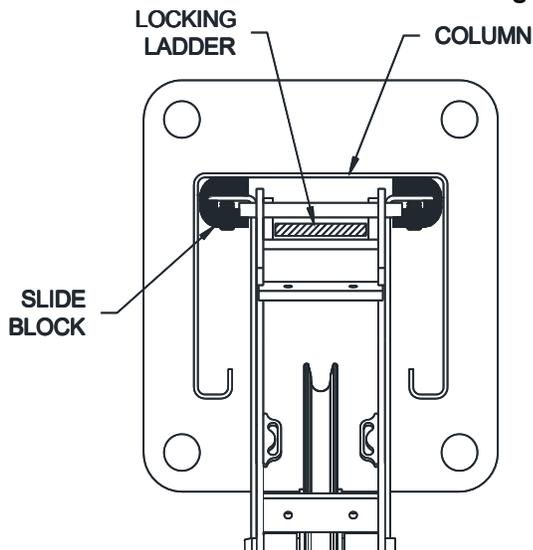

Fig 16 – Locking Ladder Orientation
- 21) Raise the locking ladder, push the column against the slide blocks, and lower the ladder into crossbeam slot, **Fig 16**. Remove the Wood 2" x 4" s and push the column so the slide blocks are in the rear of the column as shown in **Fig 16**.